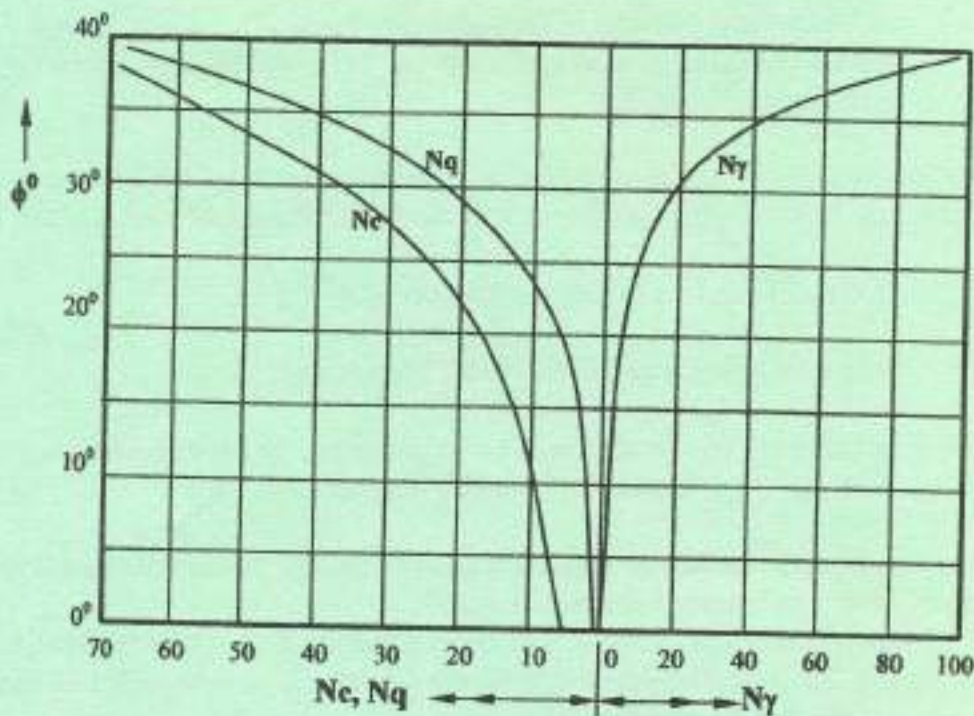

Fig 2: Bearing Capacity Factors
- (iii) A strip footing 2.5m wide is to be constructed at a depth of 2m below ground level. The cohesion of the soil is  $65\text{kN/m}^2$ , its density is  $1800\text{kg/m}^3$ , and angle of shearing resistance  $\phi = 25^\circ$ . Determine the safe bearing capacity of the soil. Use Terzaghi's bearing capacity factors in Figure 2, and apply a factor of safety of 3. (8½ marks)